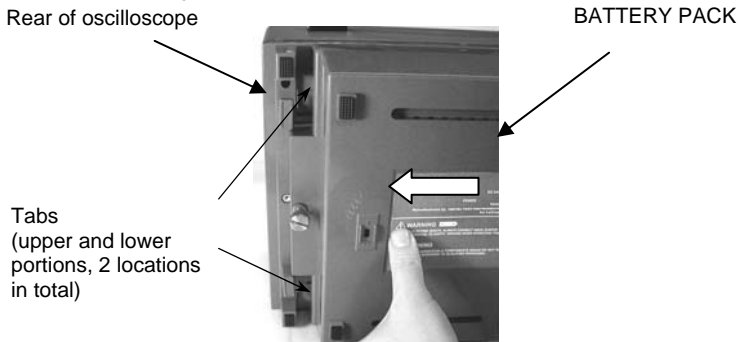

Figure 16. Mounting of BATTERY PACK A (Left Side)
1. With the back plate of the BATTERY PACK matched with the rear of the oscilloscope, align the tabs (upper and lower portions, 2 locations in total), which are located on the left when viewed from the rear of the oscilloscope, with the slots in the oscilloscope, and slide them left to insert them into the slots. (See Figure 16.)
2. Slide the BATTERY PACK in the direction opposite to that shown in Figure 16 on page 17 (slide rightward) to disengage the tabs on the left from the slots in the oscilloscope.